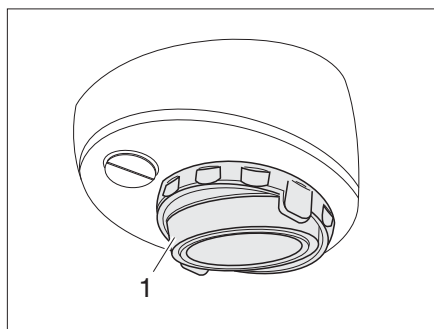

Fig. 137 Surface-mounted halogen light (swiveling)
- Use a suitable tool (e.g. a screwdriver) to lever out and remove the cover (Fig. 137,1).